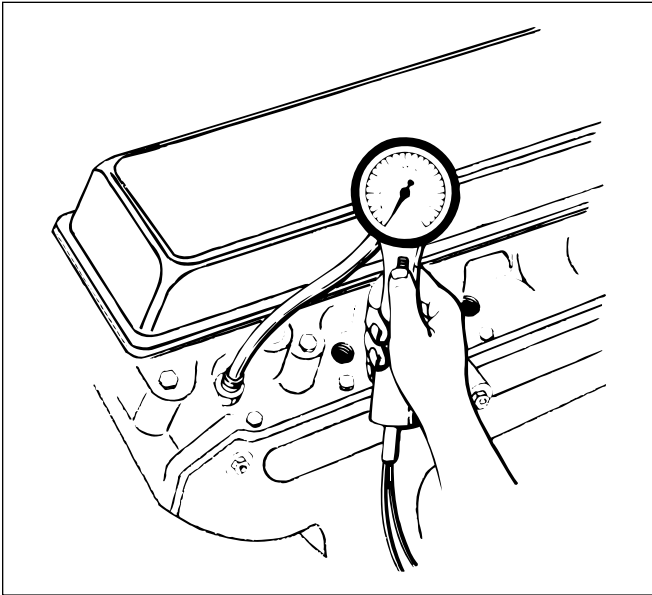

Fig. 1-19. Connect the compression gauge to a spark plug hole.
1. Connect the compression gauge to the No. 1 cylinder spark plug hole, figure 1-19